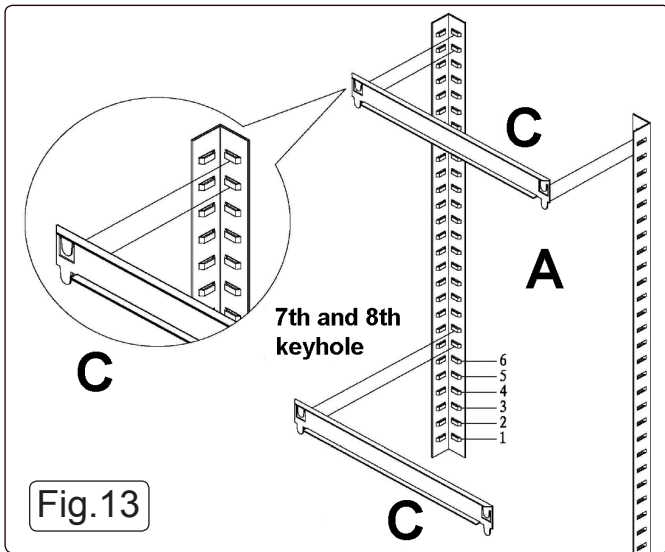

Fig.13
**4.11 See Fig.13.** Now start to build the second low level unit by making up two end frames as shown in Fig.13. One short step beam (C) should be fixed at the top of the angle posts and the other short step beam (C) should be fixed at the 7th and 8th slots up from the bottom of the angle posts as shown below. Ensure that each step beam is facing upwards. Tap the beam at either end, close to each angle post to ensure that the tabs are seated at the bottom of the slots.